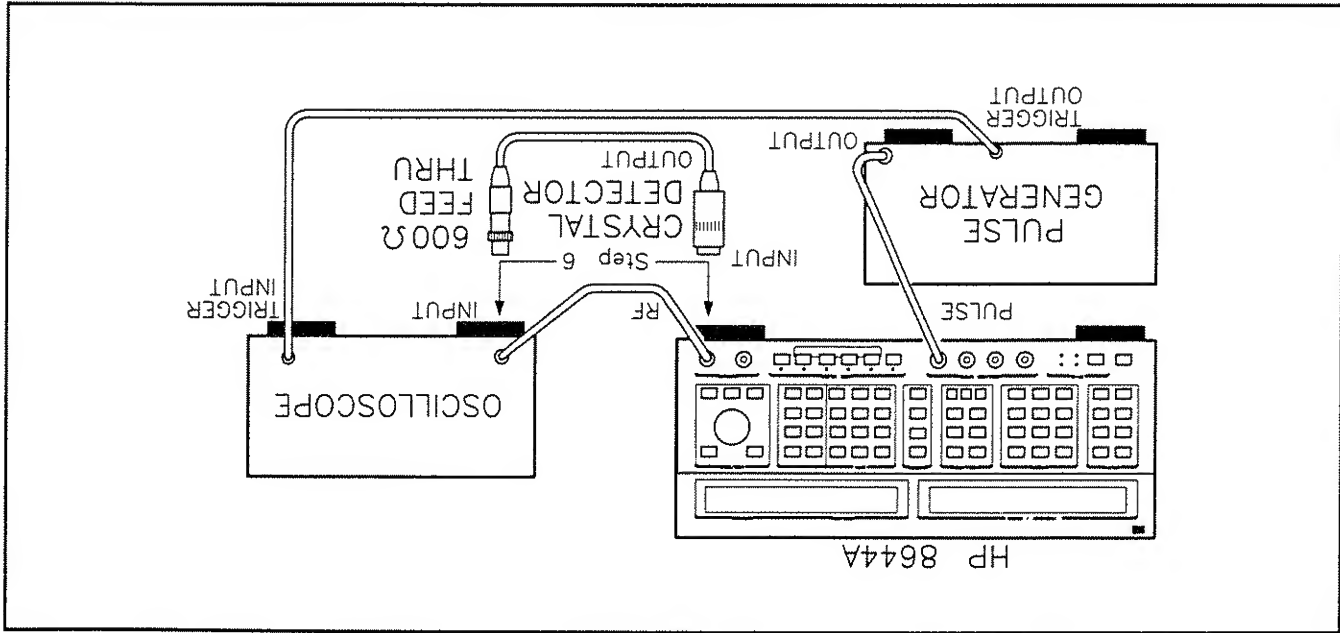

Figure 3-14. Pulse Modulation Test Setup
1. Connect the equipment as shown in figure 3-14.
6. Connect the crystal detector input to the Signal Generator's OUTPUT connector. Connect the feed-thru termination to the output of the detector then connect the output of the 600 Ω feed-thru to the oscilloscope's input. (Refer to figure 3-14.)
10. Remove the crystal detector from the Signal Generator's OUTPUTS RF and connect the OUTPUTS RF to the spectrum analyzer's input. (The spectrum analyzer is not shown in figure 3-14.)